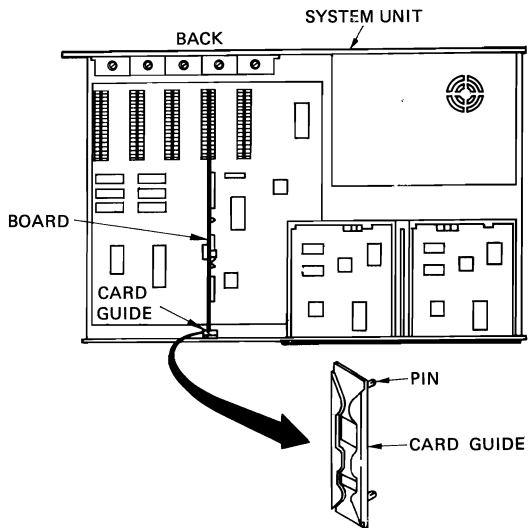

Figure 4. Installation of Card Guide for Expansion Slot
- C. Pop the plastic card guide into the predrilled holes in the front of the system unit which correspond to that expansion slot. (See Figure 4).